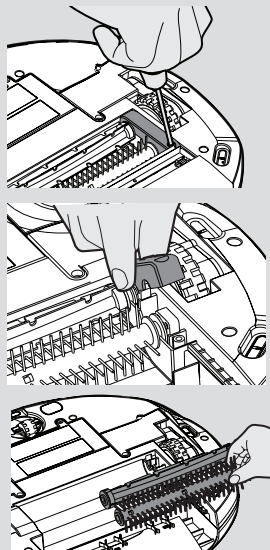

Fig. 15
**REPLACEMENT DES BROSSETTES ROTATIVES [Fig. 15]**